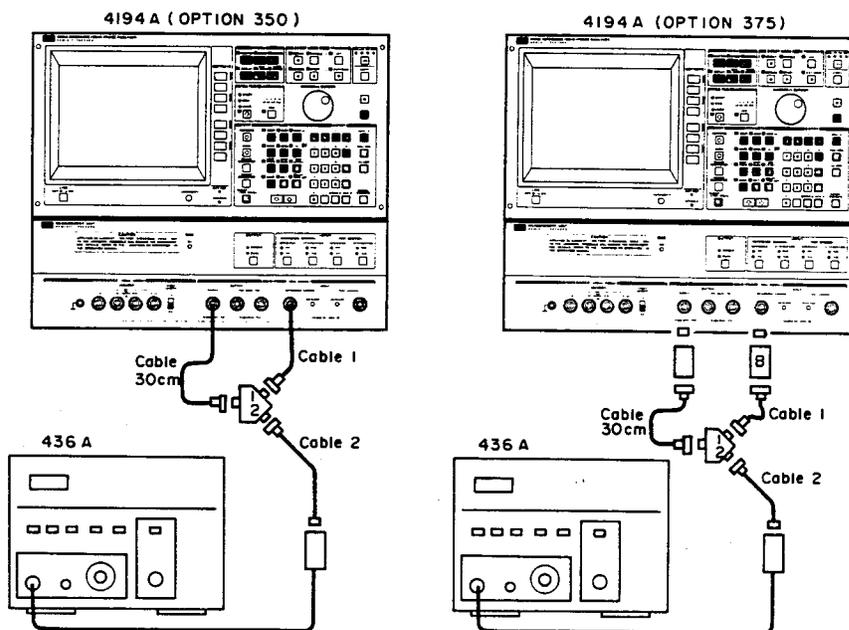

Figure 4-17. Amplitude Measurement Accuracy Test Setup 3
1. Set up the 4194A as shown in Figure 4-17 and set the 436A's measurement function to dBm.